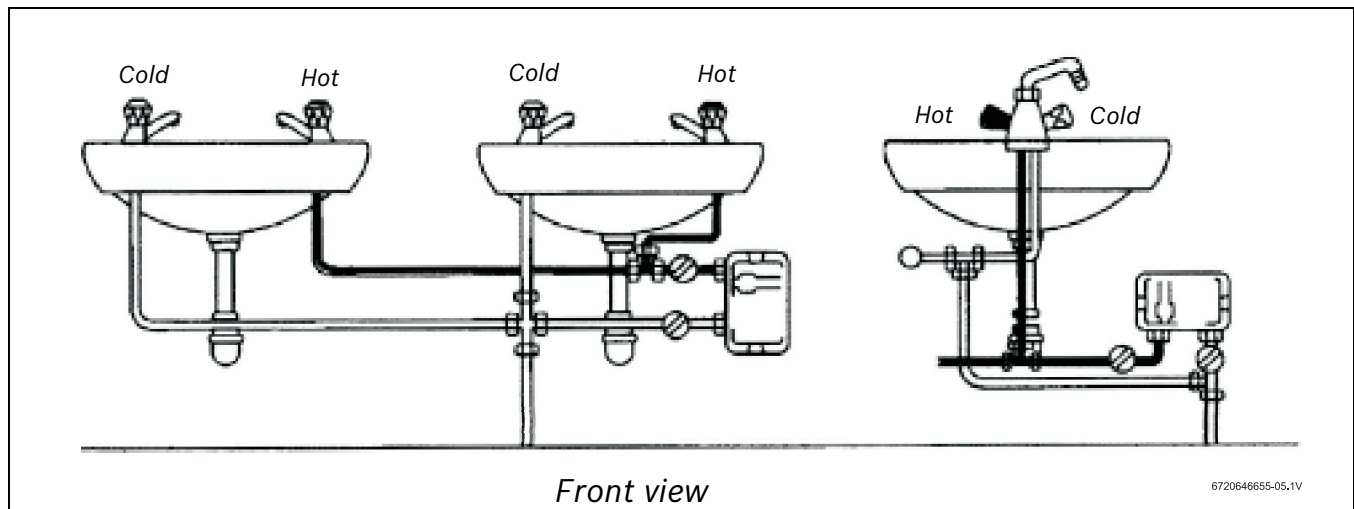

Fig. 6 Examples of installations
- ▶ The heater must only be wall mounted and positioned with the water connections located either at bottom or the right side of the unit see Fig. 6. Under no circumstances should the heater be mounted differently.
- ▶ Mount only as shown in Fig. 6 with the water connections located either at bottom or the right side of the unit.